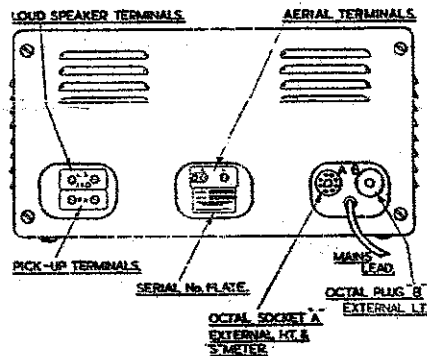

Fig. 2
D.C. mains supplies are entirely unsuitable and if connected will cause serious damage. **Ensure that the octal plug is in place in the octal socket "B" (nearest the side of the cabinet) as shown in the drawing, Fig. 2.**
The flexible lead from the meter terminates in an octal plug which should be inserted in the socket marked "A" in Fig. 2 at the rear of the receiver.
* As specified under the chassis (see Fig. 2)